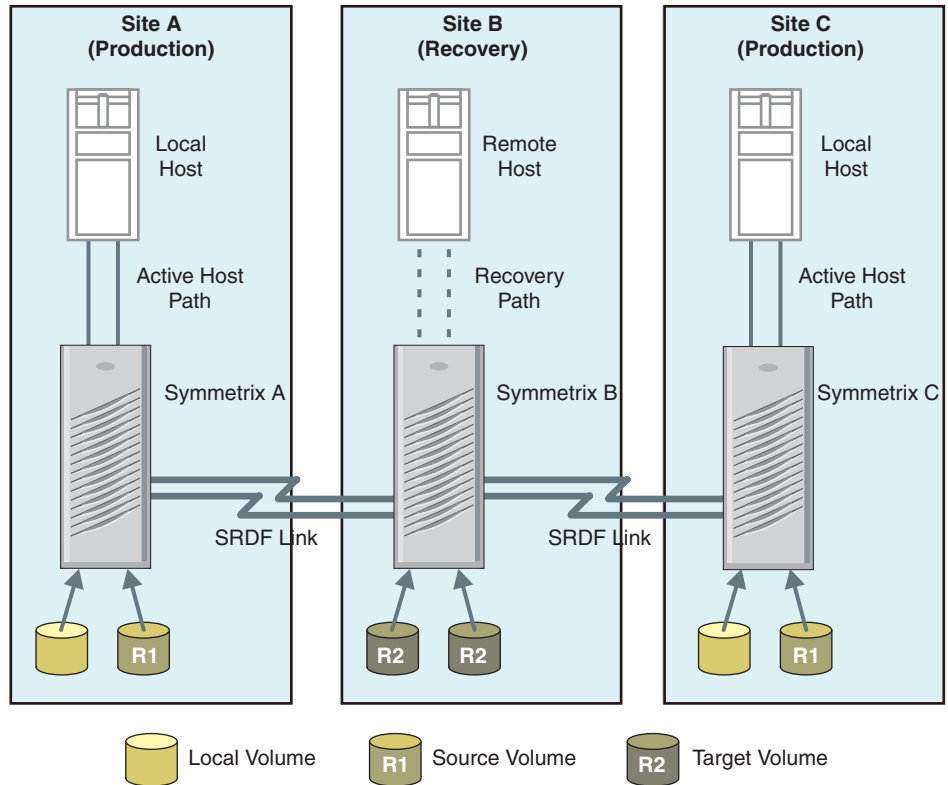

Figure 1-2 Two Production Sites and One Recovery Site
In Figure 1-2, two production sites (A and C) send data across SRDF links to one recovery site (B).